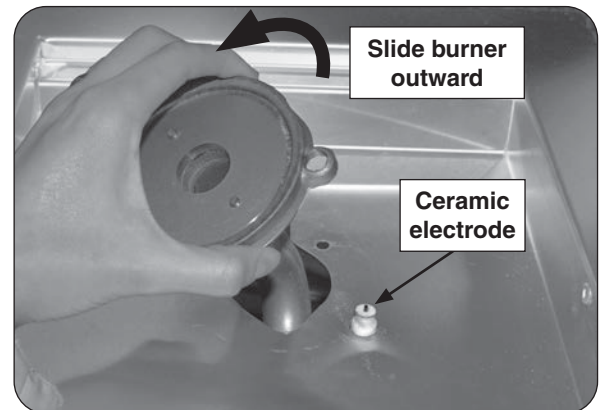

Fig. 27-2 Remove burner
5. Carefully lift the burner up and out, clearing the ceramic electrode (see Fig. 27-2), and pulling the burner tube away from the orifice located on the left side of the unit.